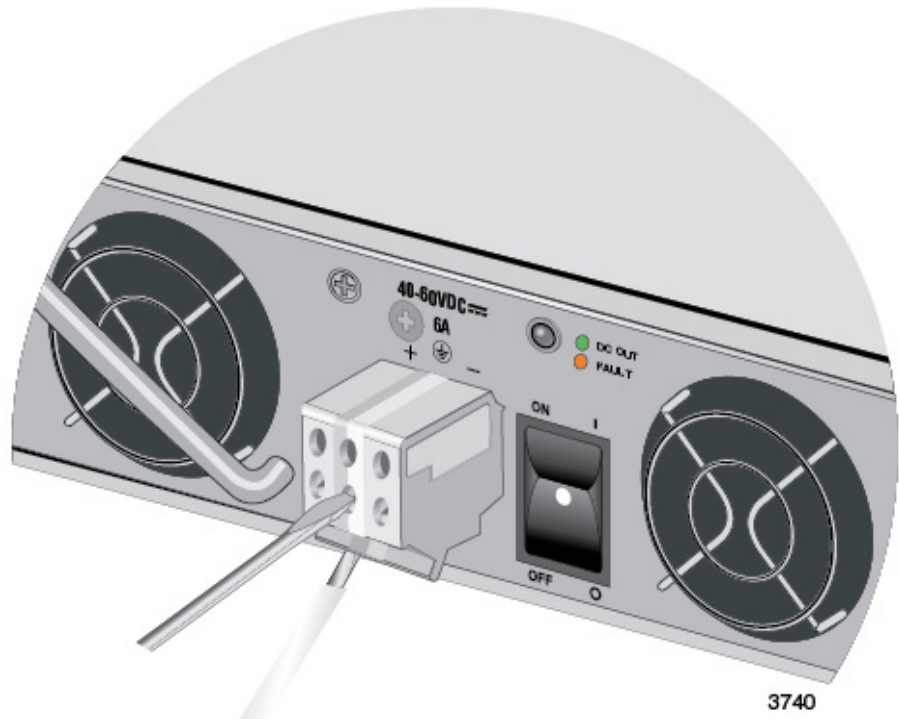

Figure 68. Disconnecting the Ground Wire to the DC Terminal Block
7. Disconnect the ground wire. Refer to Figure 68.